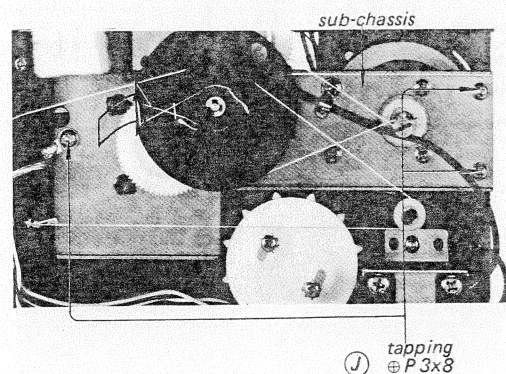

Fig. 2-14. Fm front end block removal
6. Remove the three screws marked ② in Fig. 2-14.